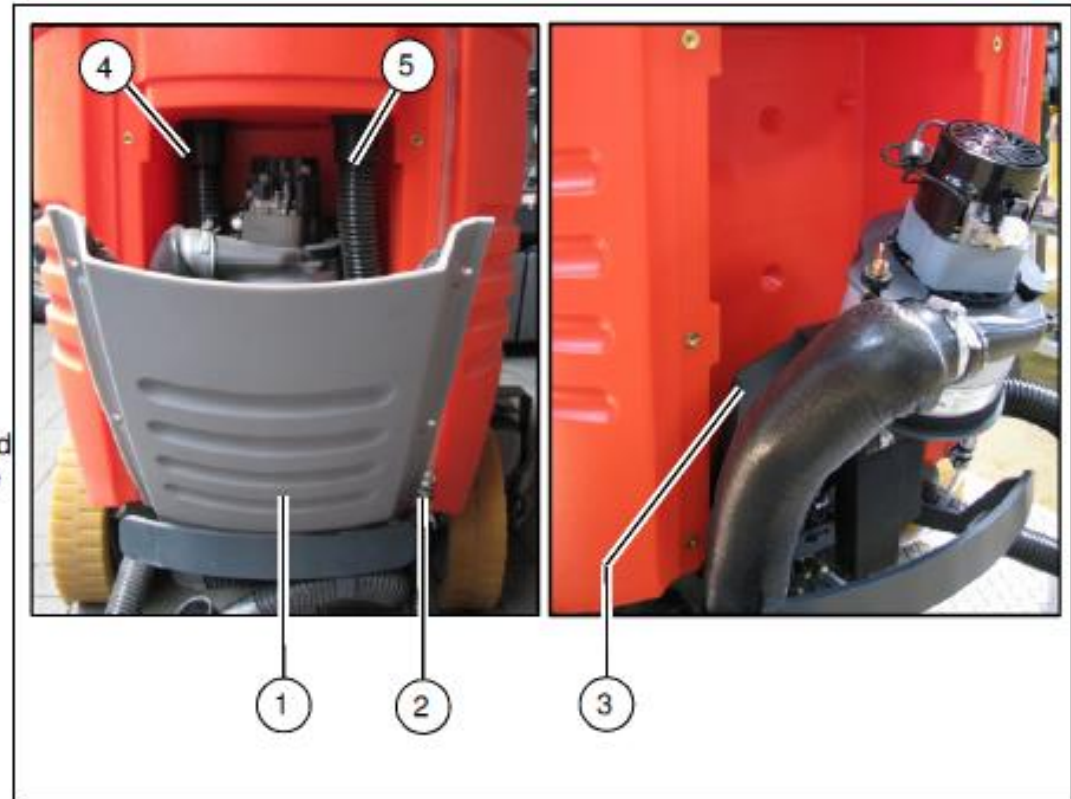

Fig. 12.1
1. Disassemble the cover (Fig. 12.1/1) and pull off the pipe clip (Fig. 12.1/2) for the hose of the fill level indicator.
2. Unscrew the holder (Fig. 12.1/3).
3. Pull out the clean water hose (Fig. 12.1/4) and waste water hose (Fig. 12.1/5).